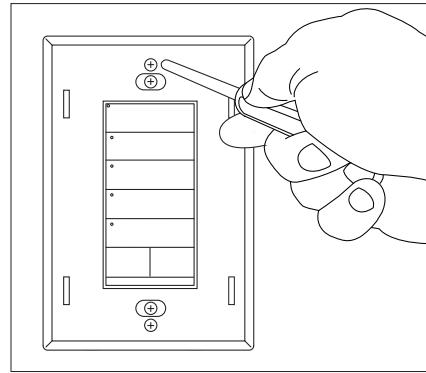

fig. 7
9. Secure Wall Plate Mount to the X2 using the supplied fasteners (see figure 7).